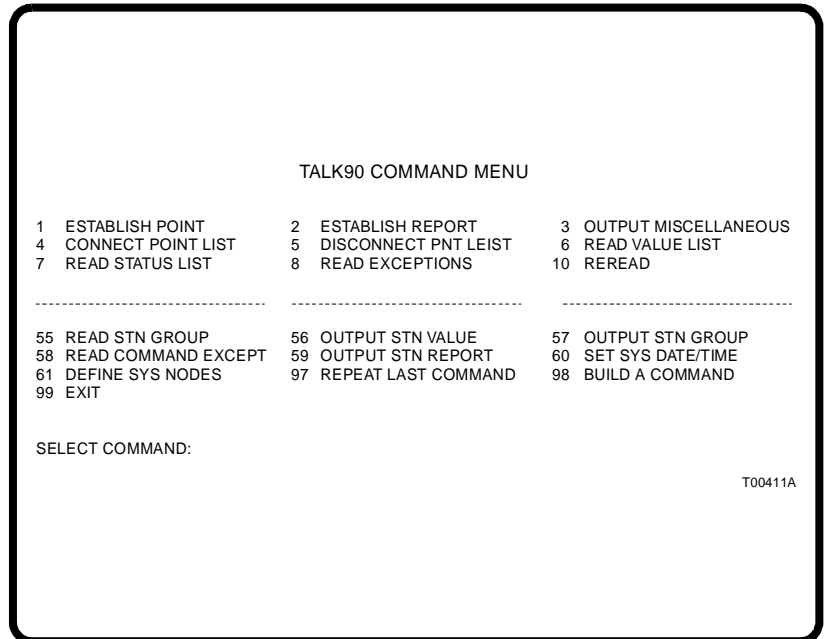

Figure 4-5. TALK90 Command Menu
1. A menu of all CIU commands appear on the screen (see Figure 4-5).
Refer to the CIU Programmers Reference Manual for an explanation of the fields shown in Figure 4-5. If the hardware is functioning properly, the interface should return a reply code of 0 followed by the node address and a spare byte as follows: